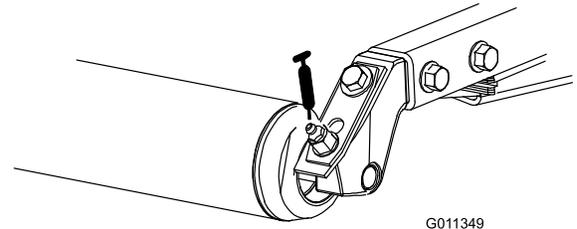

Figure 43
- Rear roller bearings (2 per cutting unit) (Figure 43)
Note: The flush fittings on the rollers (Figure 43) require a grease gun nozzle adapter. Order Toro Part No. 107-1998 from your Authorized Toro Distributor.